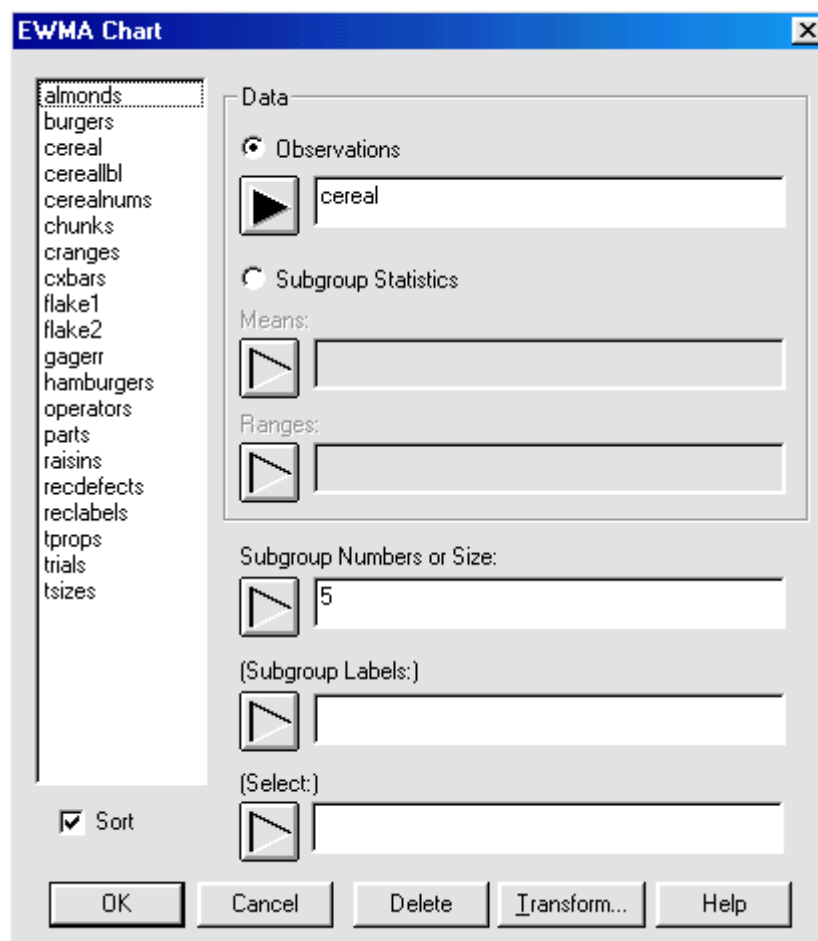

Figure 5-27. EWMA Chart Analysis Dialog Box
1. Choose SPECIAL... QUALITY CONTROL... TIME-WEIGHTED CHARTS... EWMA CHART... from the Menu bar to display the Analysis dialog box shown in Figure 5-27.